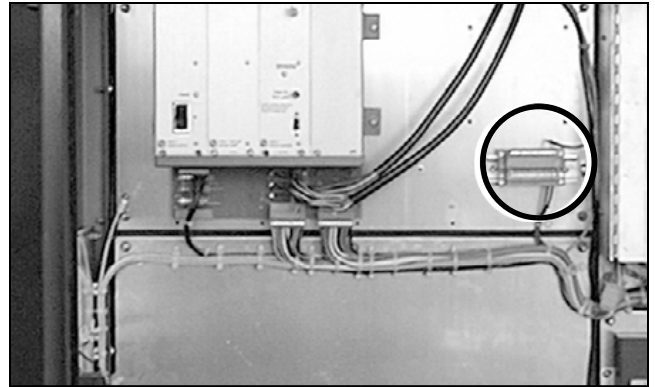

Figure 65. Attaching the ground wires to the terminal block.
- (f) Up to three pairs of ground wires, VS-G1 and VS-G2, are included. See the wiring diagram for details. Disconnect the ground wires from the temporary grounding leads and route them into the low-voltage enclosure. Attach the ground wires to the terminal block specified in the drawings provided, and fully tighten the set screws. Figure 65.